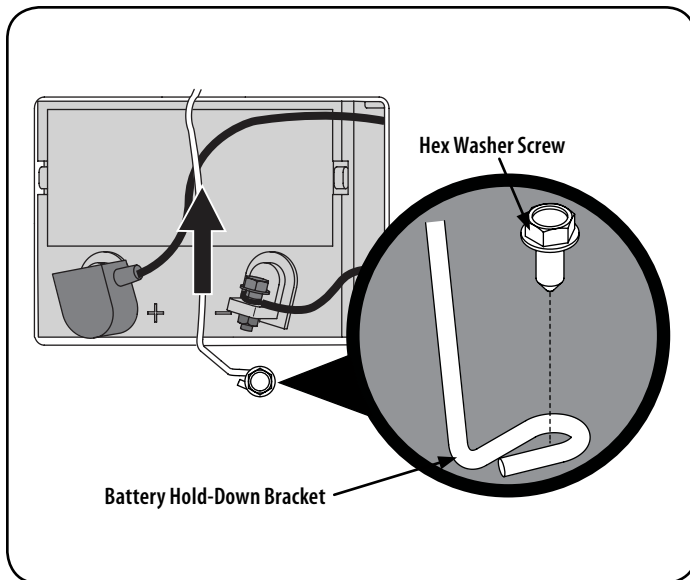

Figure 25
1. Remove the hex washer screw securing the battery hold-down bracket to the frame. Then flip the battery hold-down bracket up to free the battery. See Figure 25.